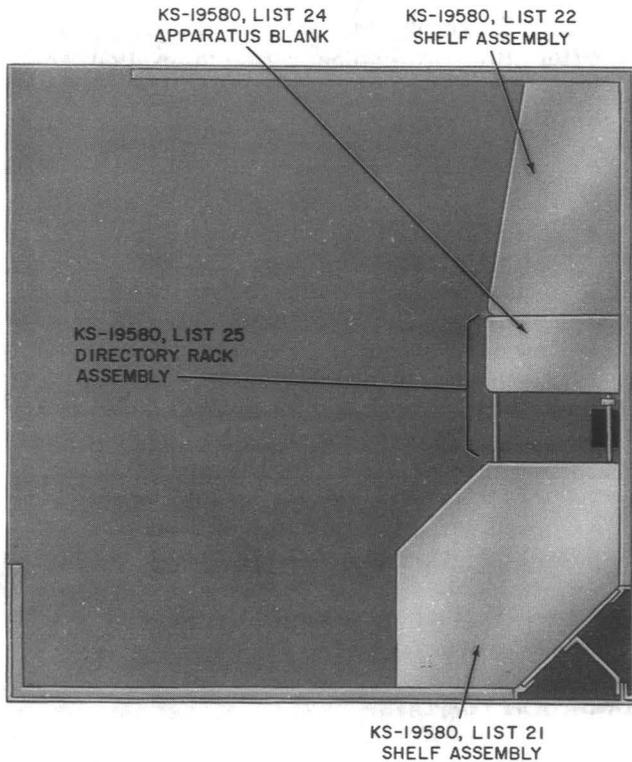

Fig. 7—Rear Wall Shelf Arrangement
- 2.20 Shelf assemblies, directory racks, and associated apparatus are listed in Table D and shown in Fig. 7.
A. KS-19580, List 21 Shelf Assembly (Fig. 7)
B. KS-19580, List 22 Shelf Assembly (Fig. 7)
C. KS-19580, List 25 Directory Rack (Fig. 7)
D. KS-19580, List 24 Apparatus Blank (Fig. 7)